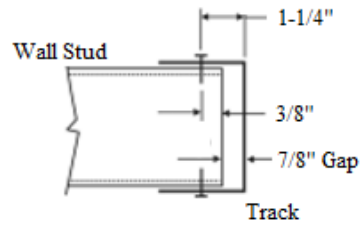

Figure 3 – Stud to Track Connection Detail
5.2 Cold-formed steel studs are attached to the deflection tracks with fasteners as described in Table 2 and Table 3. The installation of the screws shall be in compliance with ASTM C1007 with a minimum of three threads past the connection. Installation shall be as depicted in Figure 3, or as determined by the licensed design engineer of record.
3. Stud to track connection must be installed as depicted in Figure 3 with a maximum gap of 7/8" between the web of the deflection track and the end of the stud.